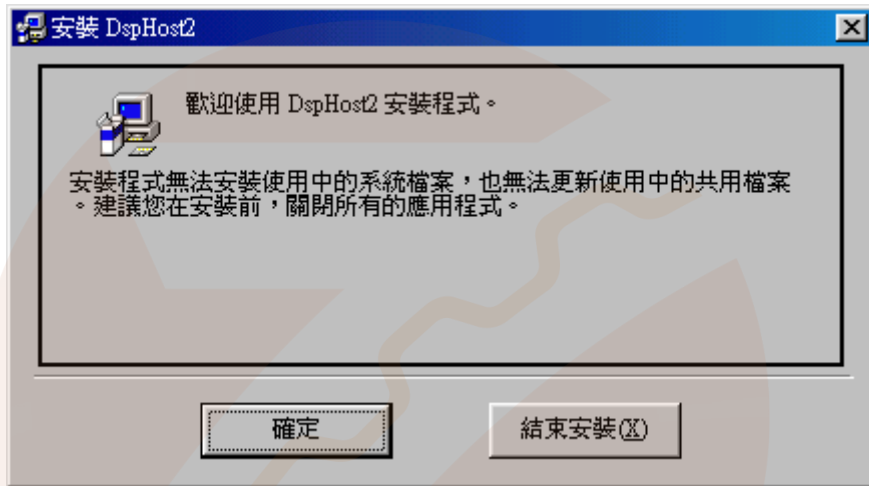

Fig. 1
1. Please close all other application programs. Execute Lm_Driver\Terminal program \DspHost2 in the CD with shipment and Fig. 1 appears.